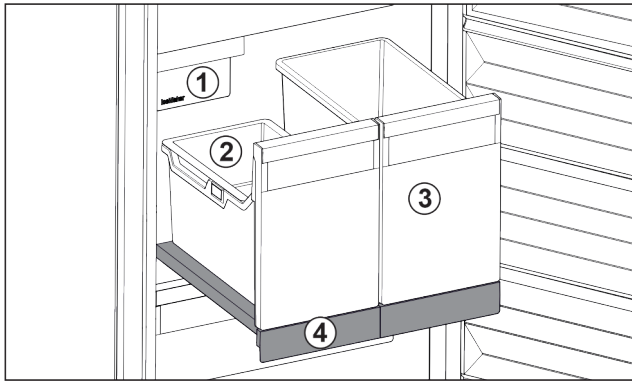

Fig. 17 Pull-out board with IceTower
- (1) IceMaker
- (2) Hang-on tray for ice cubes
- (3) Container for pizza or alcoholic beverages, for example
- (4) Pull-out board
There are two high (IceTower) containers on the pull-out board. Ice cubes from the IceMaker are collected and stored in the Fig. 17 (2) container. The container Fig. 17 (3) is suitable for storing tall foodstuffs or beverages such as pizzas or alcoholic drinks.